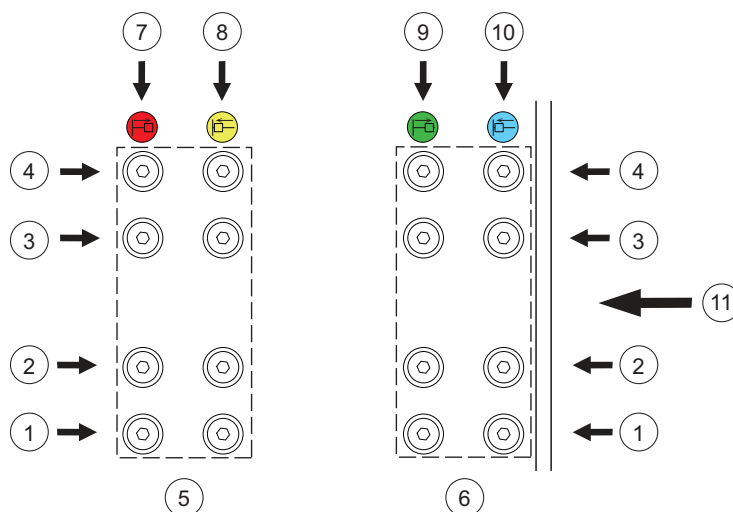

Figure 20 Hydraulic Hose Connections at HSC
* Refer to Figure 20 for connection locations.